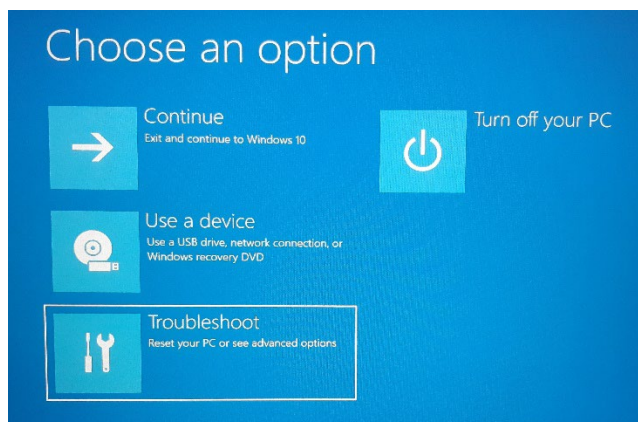

Figure 3.19. Troubleshoot Option
3. When the **Choose an option** screen appears as shown in Figure 3.19, release the Shift key.